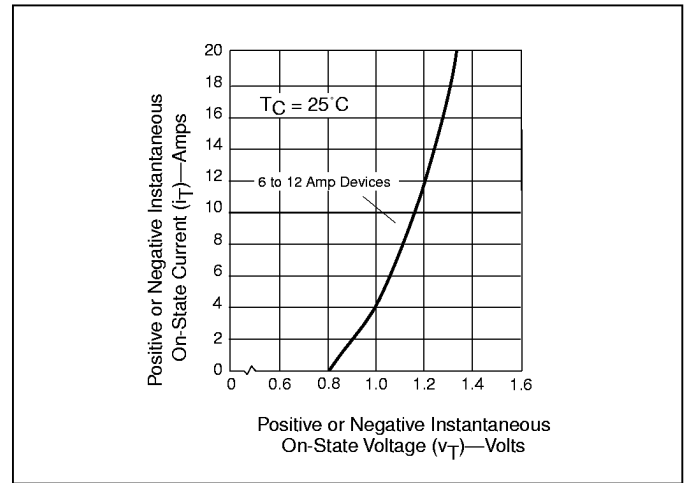

Figure 4.5 On-State Current vs On-State Voltage (Typical) (6-12 Amp Devices)
- See Figures 4.5 and 4.6 for  $I_T$  and  $v_T$ .